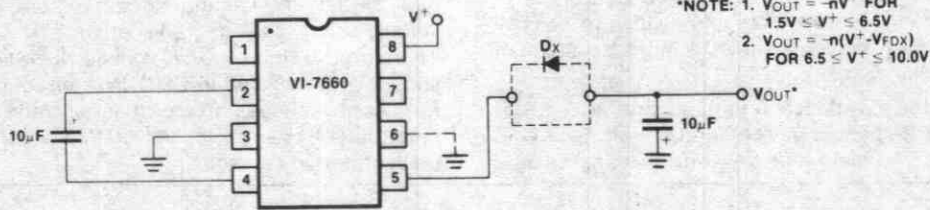
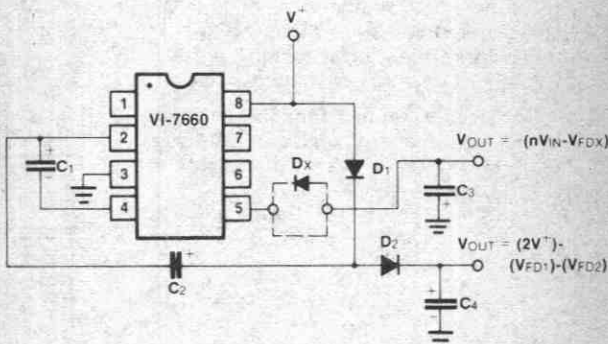

Figure 4: Simple Negative Converter
Figure 10: Combined Negative Converter and Positive Multiplier
The majority of applications will undoubtedly utilize the VI-7660 for generation of negative supply voltages. Figure 4 shows typical connections to provide a negative supply where a positive supply is available. A similar scheme may be employed for supply voltages anywhere in the operating range of +1.5V to +10.0 volts, keeping in mind that pin 6 (LV) is tied to the supply negative (GND) only for supply voltages below 3.5 volts, and that diode D_x must be included for proper operation at higher voltages and/or elevated temperatures.
The output characteristics of the circuit in Figure 4 are those of a nearly ideal voltage source in series with 70 ohms. Thus for a load current of -10mA and a supply voltage of +5 volts, the output voltage will be -4.3 volts. The dynamic output impedance due to the capacitor impedances is $1/\omega C$ where
Figure 10 combines the functions shown in Figures 4 and 9 to provide negative voltage conversion and positive voltage multiplication simultaneously. This approach would be, for example, suitable for generating $+9$ volts and -5 volts from an existing $+5$ volt supply. In this instance capacitors C_1 and C_3 perform the pump and reservoir functions respectively for the generation of the negative voltage, while capacitors C_2 and C_4 are pump and reservoir respectively for the multiplied positive voltage. There is a penalty in this configuration which combines both functions, however, in that the source impedances of the generated supplies will be somewhat higher due to the finite impedance of the common charge pump driver at pin 2 of the device.